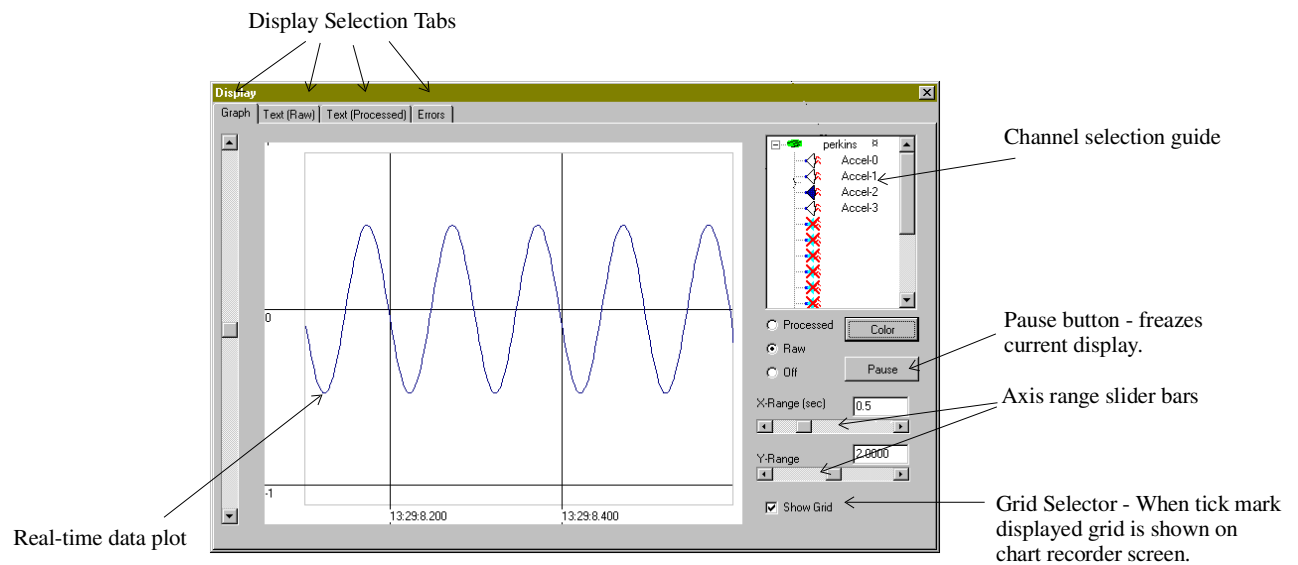

Figure 15 PodMng Software - Chart Recorder Display
2. Move the mouse pointer over the Pod chosen for channel configuration. Select by pressing the left hand mouse button or the + symbol; which appears adjacent to the Pod for which channel details are going to be adjusted, or directly the channel which is going to be configured. Figure 15 shows the **Edit Channel** Window